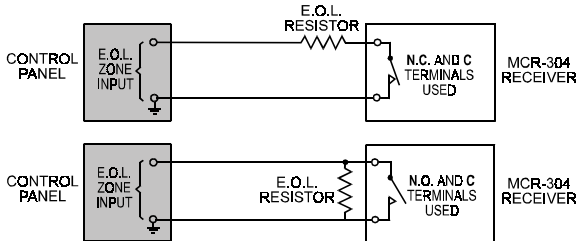

Figure 4. Using E.O.L. Resistors in the Relay Output Circuit
4.3 Wiring (Figures 4 through 7)
Note: If the control panel burglar zone input is defined as E.O.L., use appropriate E.O.L. resistors (see Figure 4).